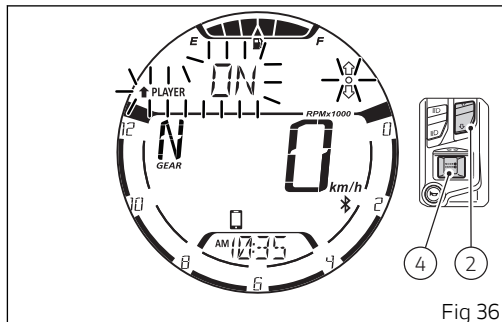

Fig 36
To exit the music player control and keep it active, for example with the track being played, press button (2) for 2 seconds. Afterwards, the display shows the black arrow facing upwards flashing for 3 seconds followed by the indication "PLAYER", the message "ON" and the empty circle "○" (Fig 36).